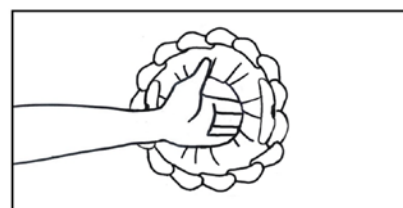

Figure 5. Remove Wound Retractor
- Grasp the bottom fixed-diameter ring and pull ring up and out of the incision. (Figure 5)